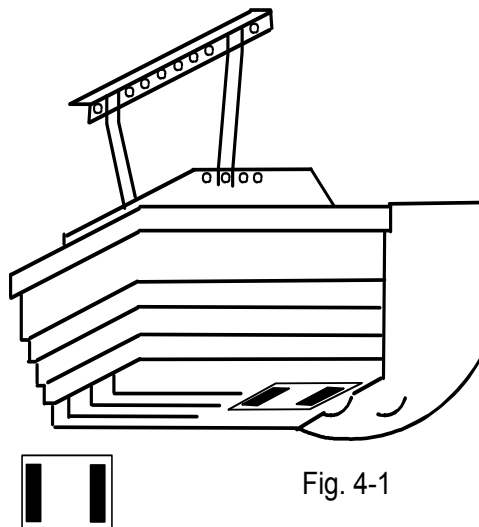

Fig. 4-1
**4. Apply Velcro® to the Autocloser unit and the garage door opener power head assembly (Fig. 4-1).** *TIP: Apply two parallel strips at the front and back of the outline and the unit.* The industrial strength, temperature resistant adhesive on the Velcro® strap is pressure activated. Use your finger to apply pressure and remove air bubbles. The adhesive is 80% cured in 1 hour and 100% cured in 24 hours. The Autocloser unit can be mounted before the adhesive is cured, but care should be exercised not to apply any pressure on the unit that will disturb the adhesive. Attach the Autocloser to the Velcro® strapping on the garage door opener. As in step 3, verify that the reflector and system are aligned.